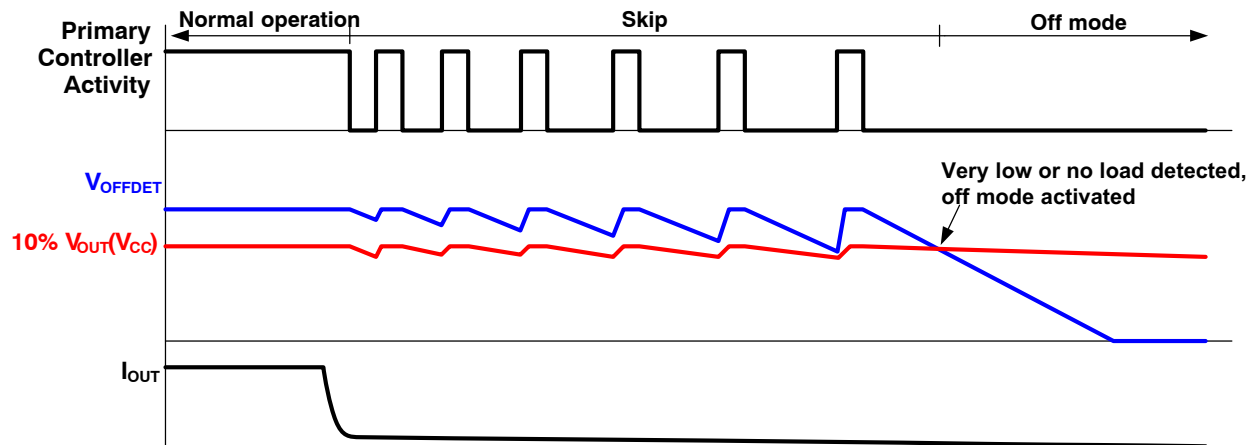

Figure 30. OFF Mode Detection
The OFF mode detection is based on comparison of output voltage and voltage loaded with fixed resistances (D2, C2, R8 and R9). Figure 30 shows detection waveforms. When output voltage is loaded with very low current, primary controller goes into skip mode (primary controller stops switching for some time). While output capacitor C1 is discharged very slowly (no load condition), the capacitor C2
While both C1 and C2 are discharged during the missing cycles, C2 discharge will be faster than C1 without output current, V_{OFFDET} drops below $V_{OFFDETTH}$ and OFF mode is detected (7). This situation is shown in Figure 30 in detail. When OFF mode is detected, internal pull-up current I_{BIASV} is switch on (7), VSNS voltage increases (due to I_{BIASV}) and voltage amplifier sinks full current to keep primary FB voltage below skip level until OFF mode is detected by the primary side controller (8). Current into ONOFF pin or DRIVE pin begins to flow at the same time, when entering into OFF mode (7). When OFF mode is detected by primary side controller (8a), primary FB injected current decreases to a lower level to reduce overall power consumption. Optocoupler current, can also be reduced from that time to keep the level below restart level. Secondary side controller decreases optocoupler current (voltage transconductance amplifier stops to sink current) when VSNS voltage drops below V_{REF} (9) and I_{BIASV} is also switch off when V_{SNS} is lower than 90% of V_{REF} to reduce overall consumption. This point is defined by I_{BIASV} current, R6, R4 and R5 resistors and discharging time of output capacitor C1. Discharging of C1 continues (10) until output voltage drops below level set by voltage divider at VMIN pin (except NCP4353A where minimum V_{OUT} is defined only by VCC UVLO) (11). ONOFF current stops and thanks to internal pull-up, the primary FB voltage rises above restart level (12) and primary controller starts switching (13). Output capacitor C1 is recharged (14) to set voltage. If there is still light load condition primary controller goes to skip mode (15) again and after some time secondary controller detects OFF mode by very light or no load condition (16) and whole cycle is repeated.